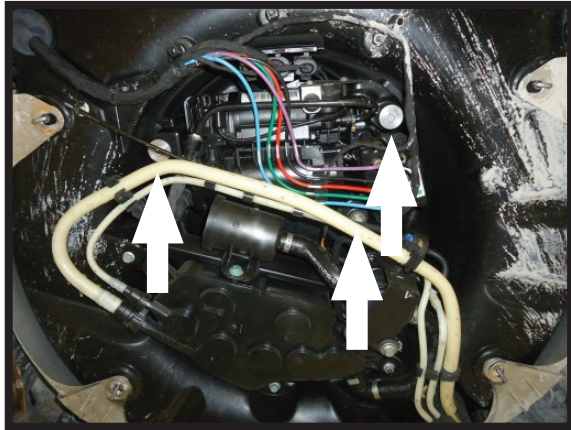

FIGURE 8
10. Remove the three (3) mounting bolts and hardware holding the compressor assembly to the vehicle. (FIGURE 8)